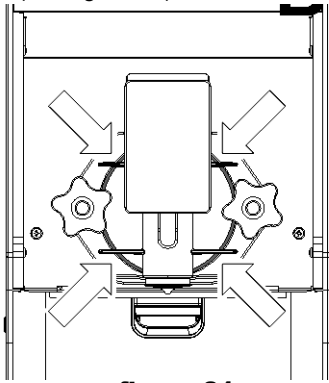

figure 31
- 1 **Once a day:** check the dispenser and make sure there are not product leaks from the tap assembly seal. If you notice a leak, check first and foremost that the components have been assembled correctly, then make sure the seal is not worn or faulty, in which case replace it with an original spare part from the manufacturer. (see figure 31)